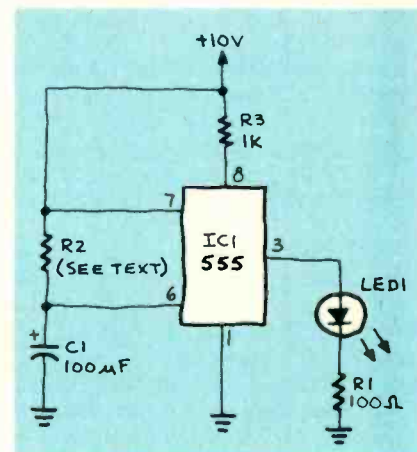

FIG. 2
Another circuit related to your project, one that I am sure will interest you and other readers, was sent in by Dan Napolitan (PA). In his circuit (shown in Fig. 2) he uses only the familiar 555 timer. If you vary the value of resistor R2 you can change the length of on time. (The value of R2 should be somewhere between 22 kilohms and 1 megohm.) You can combine the two circuits by taking the output of the first and feeding it to the trigger input (pin 2, not shown) of the 555 timer.